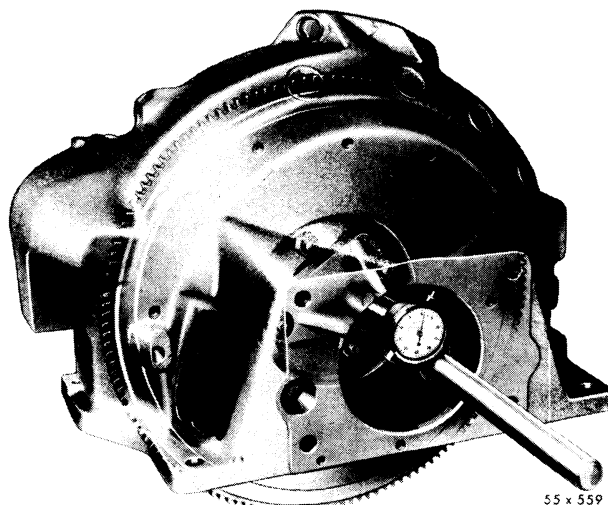

Fig. 12—Typical Method of Attaching Fixture C-780 (To Check Clutch Housing Bore)
- (1) Check runout of housing bore. (See Fig. 12.) Bore should not be off center more than .005 inch total indicator reading.
- (2) If necessary to correct bore alignment, tap out dowels that align clutch housing to engine. Loosen mounting bolts slightly and tap housing to line it up with crankshaft.
- (3) Tighten bolts to 35 foot-pounds torque and recheck alignment. Ream out dowel holes with special reamer, Tool C-860, and install .010 inch oversize dowels (Part No. 1316146).